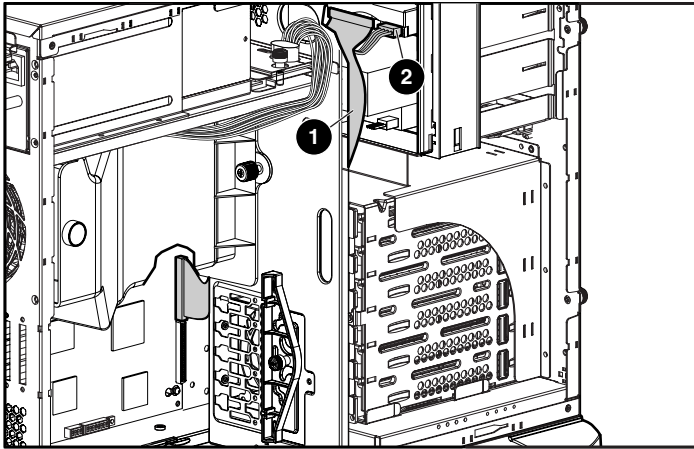

Figure 3-16: Connecting the data and power cables to the tape drive
6. Connect the data cable into a SCSI controller channel (secondary SCSI channel shown in Figure 3-16).